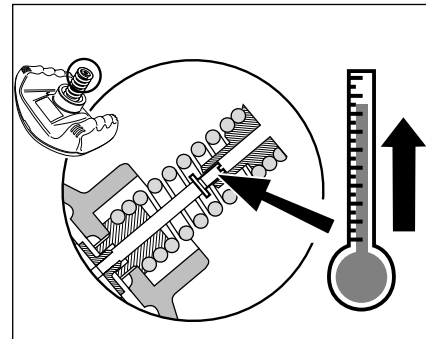

Figure 11
4. Try to loosen the screw. If you feel excessive resistance, heat the screw slightly (heat-gun or hairdryer) to soften the locking resin (**Figure 11**).